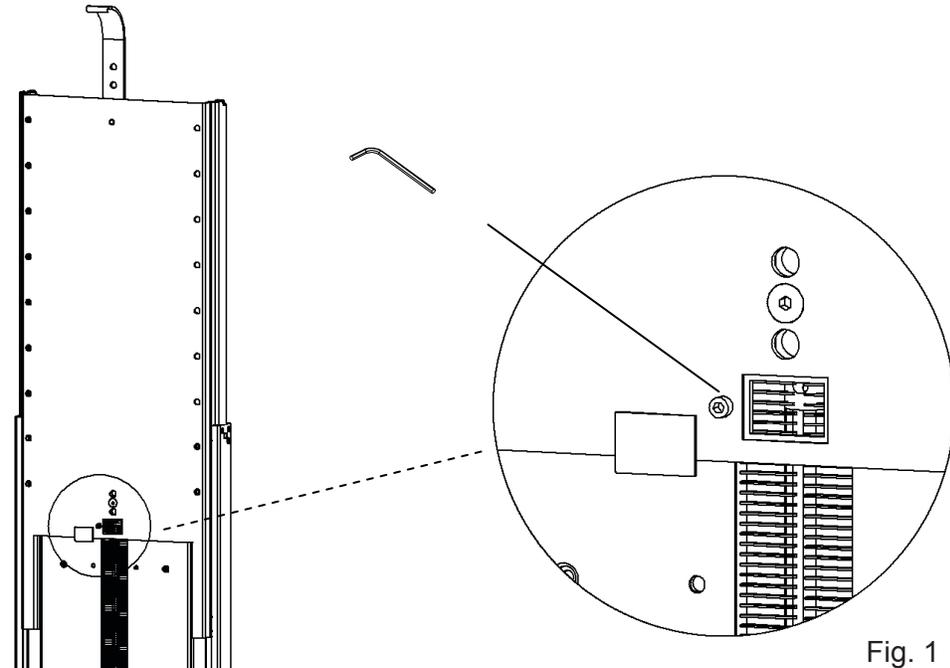

Fig. 1
3. Remove the small plastic cover plate (see fig.1) and you will see the glider on the cable.
4. Use a 2.5 mm Hex key to loosen the screw inside the glider. (see fig.1)